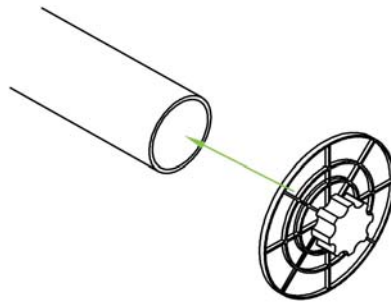

Figure 4-6
1. Insert a roll media flange at the end of each roll media and tighten the thumbscrew until the roll media is firmly gripped. (Figure 4-6)